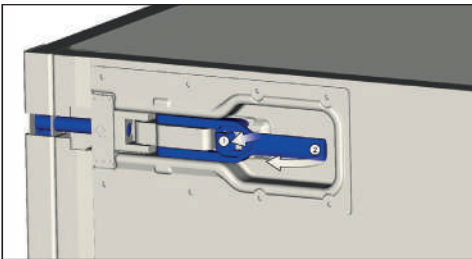

Figure 11-14 Unlocking the open cargo box side and back cover
- Unlock the both locks of the side covers for opening the side covers (See Figures 11-14, 11-15 and 11-16), unlock the locks on the back of both sides for opening the rear cover (See Figures 11-14 and 11-17).
- To unlock the locks, press the button indicated with ① and pull the lever indicated with ② in the direction of the arrow (See Figures 11-14 and 11-15).